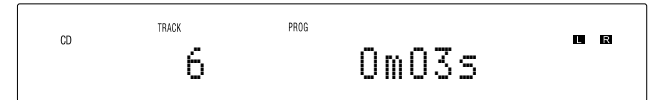

Figure 35
4. To start playback of the just entered program, press the PLAY/PAUSE ►/ || Push-button. Refer to figure 35.